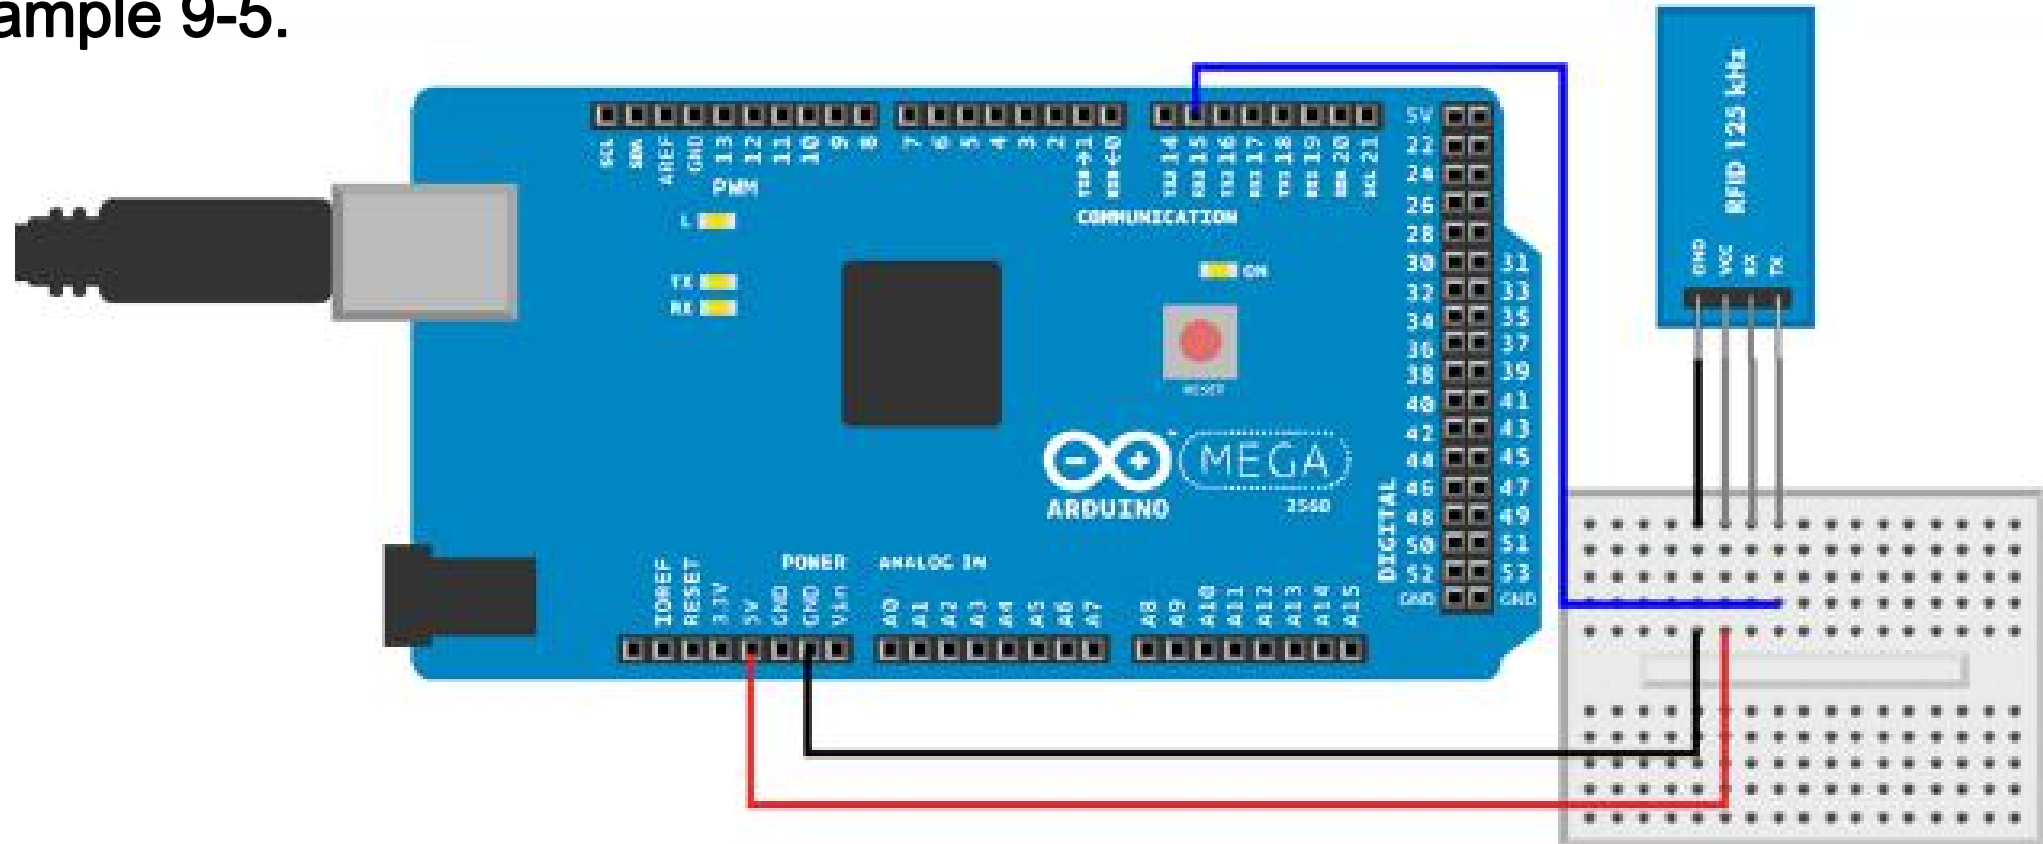

Figure 9-9. Connection diagram for Arduino and RFID reader
- Wire up the Arduino as shown in Figure 9-9, then run the sketch listed in Example 9-5.